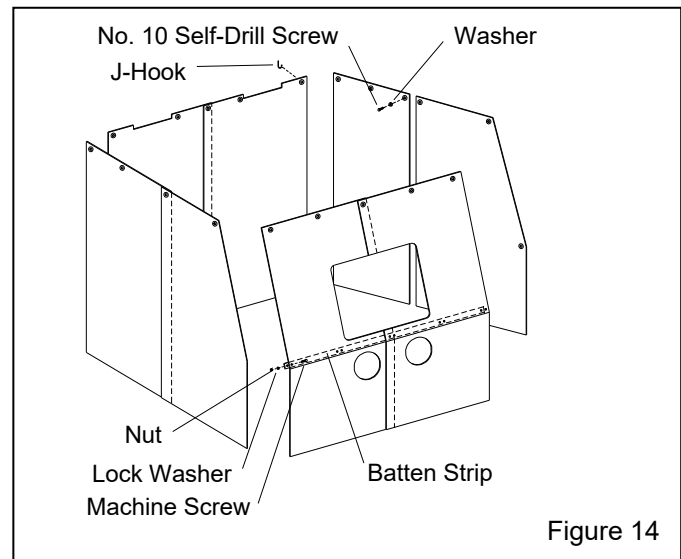

Figure 14
## 3.2 Cabinet Curtains Installation – Figure 14
**3.2.1** Match the curtains to the corresponding wall and door as shown in Figure 14. Hook the curtains to the J-Hooks welded along the top of the front, back, and side walls. Cut openings for the hoses on the lower-left rear wall.
**3.2.3** For front walls, place the batten strip over the curtain and clamp it in position on the front slope above the break, as shown in Figure 14. Match drill .187" (3/16") diameter holes through the rubber and cabinet front at each batten hole. To install the batten, insert #10-24 x 1" round-head machine screws through the cabinet front, curtain, and batten. Install lock washers and nuts from inside the cabinet and tighten securely.